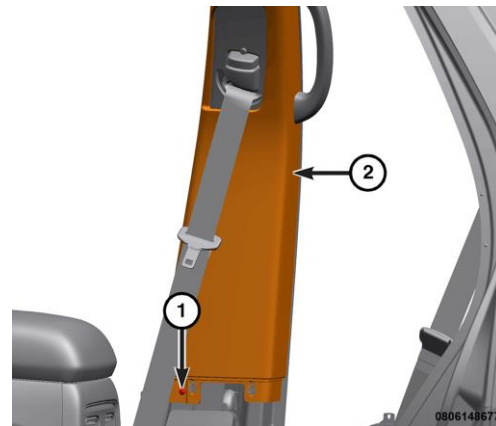

Figure 16 – Upper B-pillar Trim
26. Remove the screws (1) from the upper B-Pillar trim panels (Figure 16).
27. Using a trim stick, disengage the retaining clips that secure the upper trim panels (2) to the pillars and remove the trim panels (Figure 16).